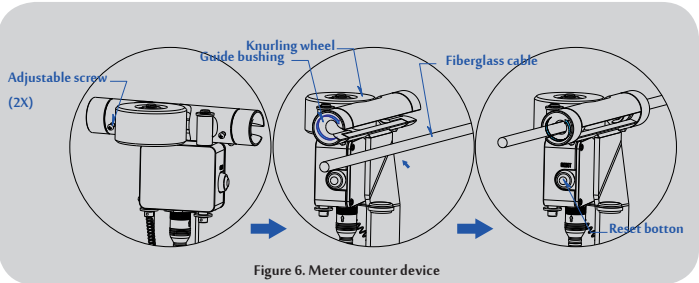

Figure 6. Meter counter device
2. Meter Counter Device (See Figure 6)